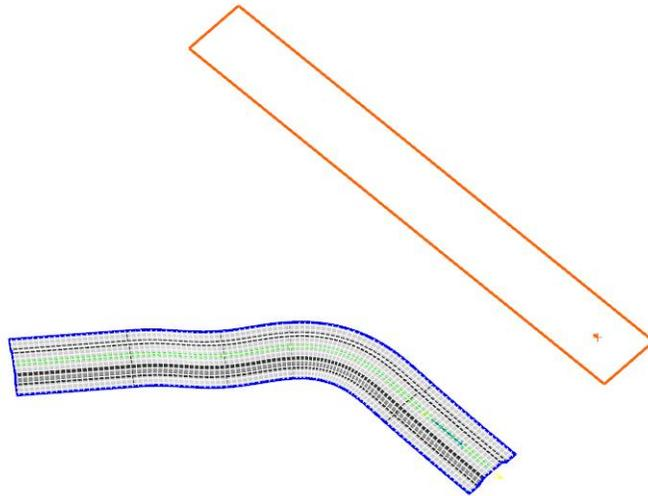

Figure 5–48
9. Switch to NX and review the flat pattern created. Flat pattern for P003 is shown in Figure 5–48.